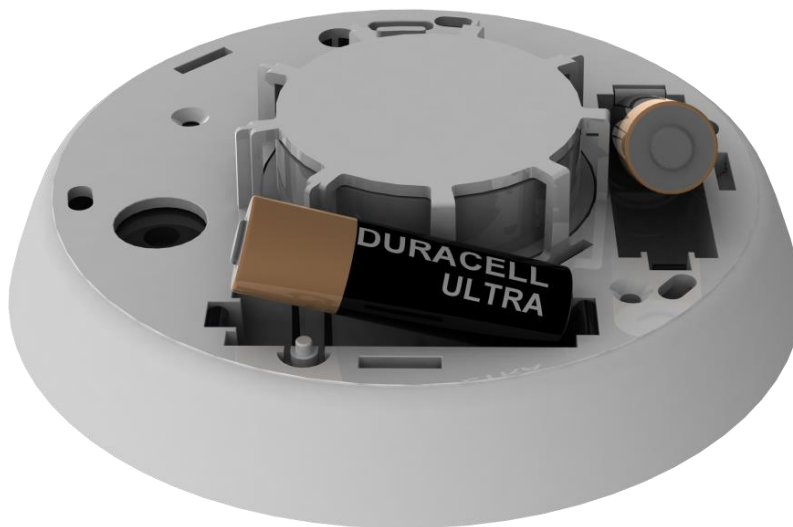

Figure 135: Inserting a Batteries into the Smoke Detector
7. The down-counter provides a time-frame of three (3) minutes within which the two batteries should be installed to power-up the Smoke Detector, as demonstrated in Figure 135 below: